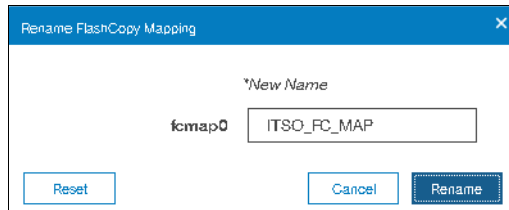

Figure 10-61 Renaming a FlashCopy mapping
4. In the Rename FlashCopy Mapping window, enter the new name that you want to assign to the FlashCopy mapping and click **Rename**, as shown in Figure 10-61.